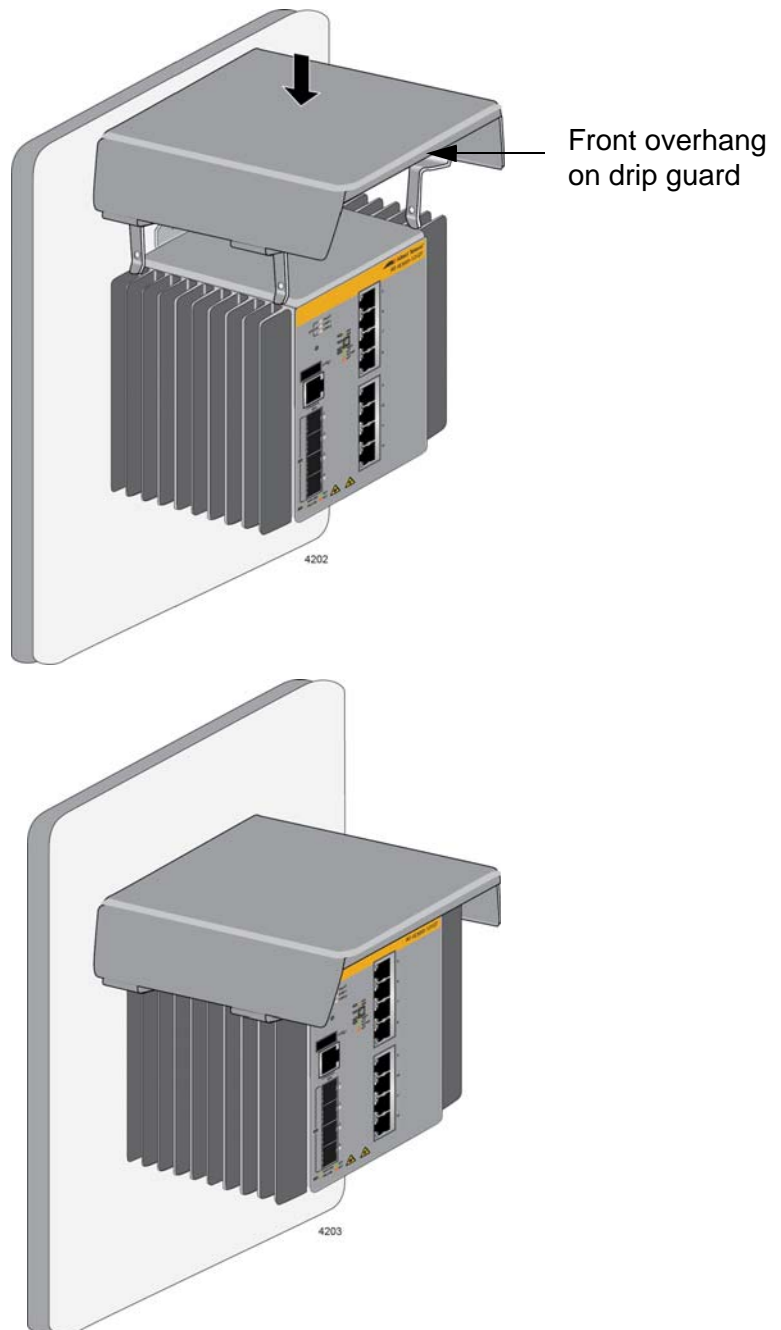

Figure 50. Installing the Optional Drip Guard
1. Slide the drip guard over the top of the switch. The front overhang on the drip guard should project over the front of the switch. Refer to Figure 50.